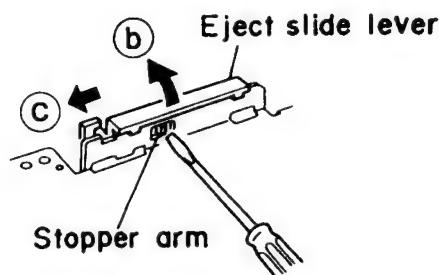

Fig. 5-19
(See Fig. 5-19)
1. Place the cassette mechanism back side frontward and disengage the stopper arm ⑤ of the Eject slide lever by pressing it inwards through the opening of the chassis with a small screwdriver as shown in Fig. 5-19.
2. Disengage the Eject slide lever in the direction of arrow ⑥.